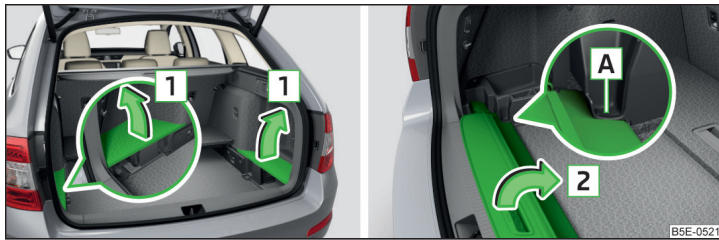

Fig. 138 Removing side covers / stowing foldable luggage compartment cover
- › Remove the side covers in the direction of arrows **1** » Fig. 138.